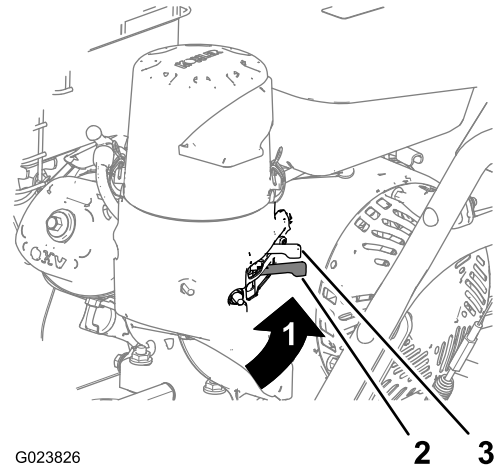

Figure 9
Move the fuel-shutoff valve located below the choke, to the right to turn on fuel (Figure 9).
engine, leave the choke lever in the OFF position (Figure 9).
5. Allow the engine to warm up for several minutes, then move the choke lever toward the OFF position (Figure 9).
5. Use the fuel-shutoff valve to shut off the flow of fuel when you will not use the machine for a few days, park the machine inside a building, or transport the machine to and from the job site (Figure 9).